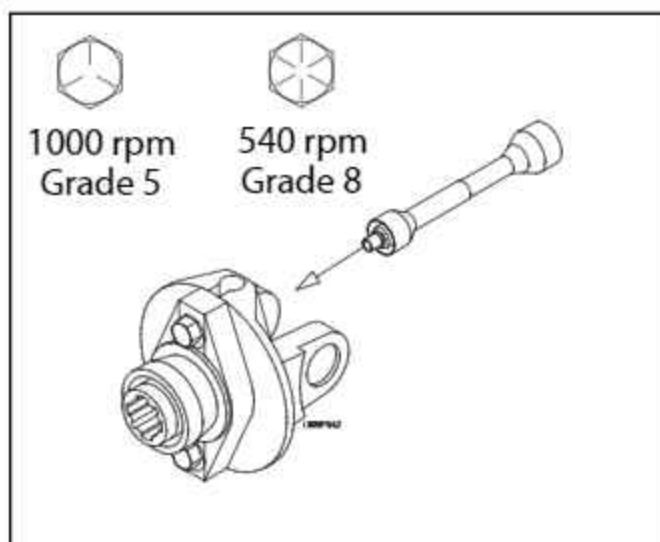

FIG. 4-8. PTO Shaft Shear Bolt
The driveline is protected by a shear bolt inside the bell of the PTO Shaft where it connects to the tractor as shown in Fig. 4-8. If the shear bolt fails:
3. Install a new shear bolt. See Fig. 4-8.